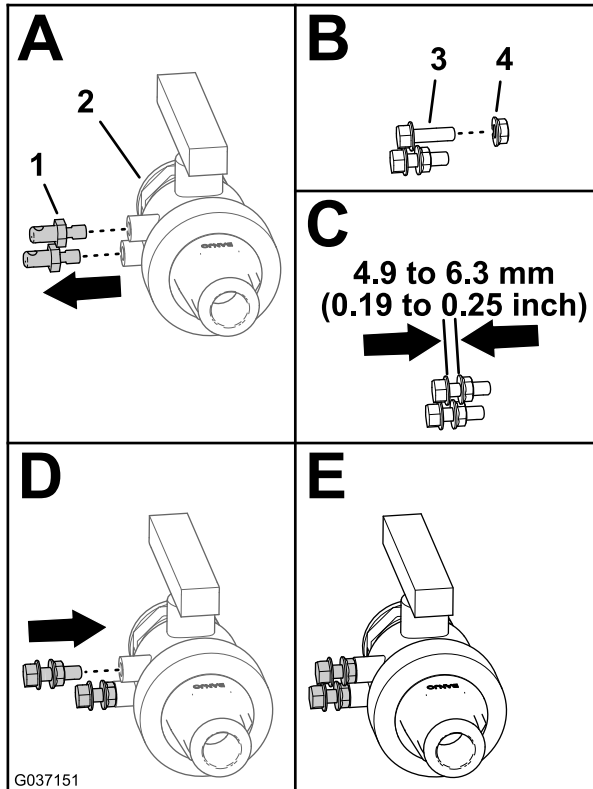

Figure 15
1. Remove the 2 mounting pegs from the drain valve (A of Figure 15).
2. Thread the 2 flange locknuts (5/16 inch) onto the 2 flange-head bolts (5/16 x 1 inch) as shown in (B and C of Figure 15).
3. Assemble the flange locknuts and flange-head bolts to the drain valve and tighten them with a wrench (D and E of Figure 15).